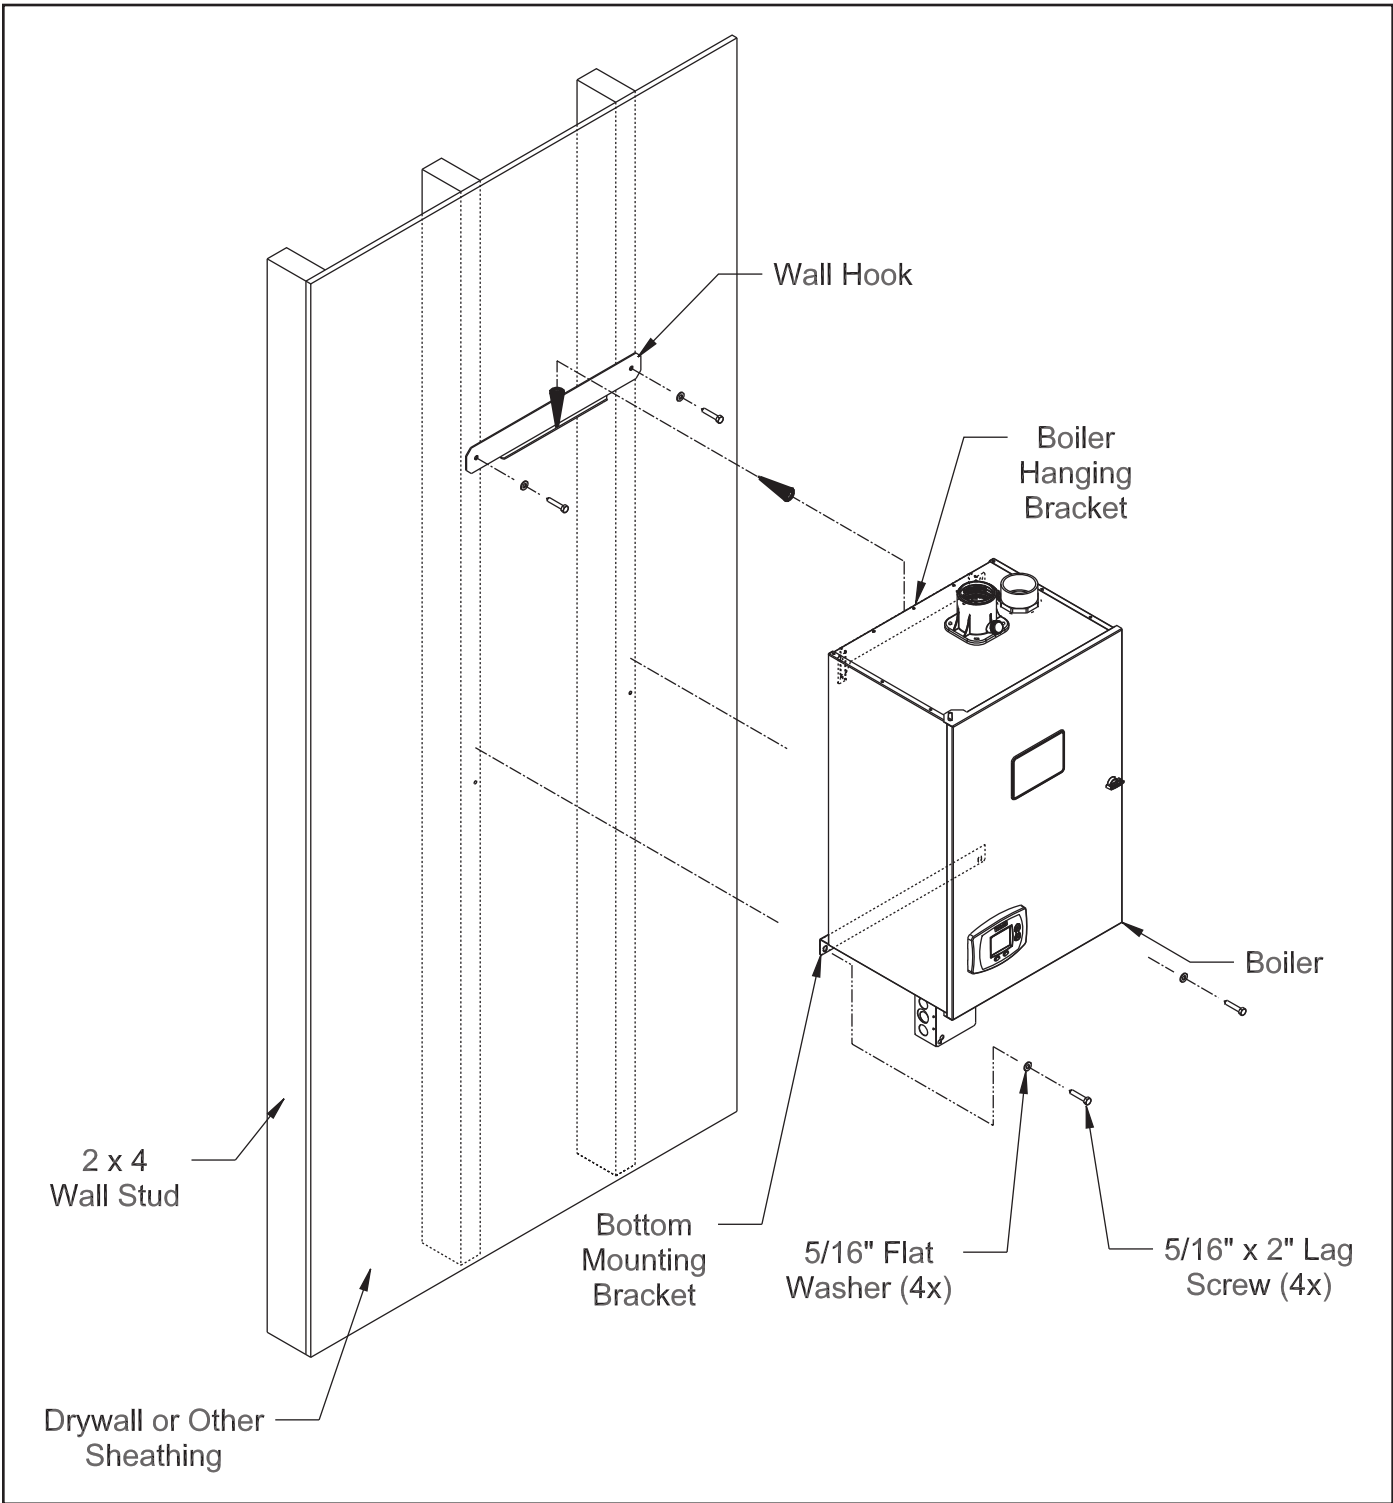

Figure 5.2 Boiler Mounting Bracket Installation / Boiler Wall Mounting
- 6) The wall mounting hook is used to secure the boiler to the shipping pallet. Remove this hook from the pallet and secure to the wall using the 5/16" x 2" lag screws and washers, or other suitable anchors as appropriate (Figure 5.2). Make sure the hook is level.
- 7) Hang the boiler on the wall hook as shown in Figure 5.2.
- 8) If not already done in Step (5) locate and drill holes "C" and "D" using the obround slots in the bottom mounting flange. Secure the bottom flange to the wall using the 5/16"x 2" lag screws, or other fasteners as appropriate (Figure 5.2).